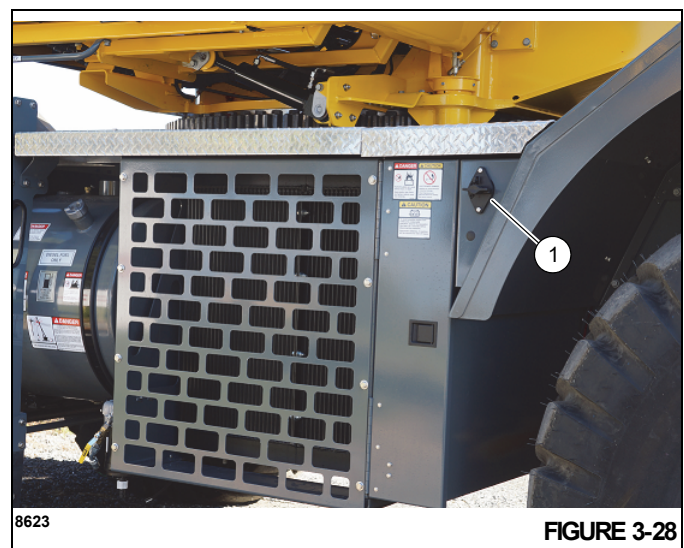

FIGURE 3-28
Ensure Battery Disconnect Switch handle (1) (Figure 3-28) is in the ON position (handle shown in the OFF position)